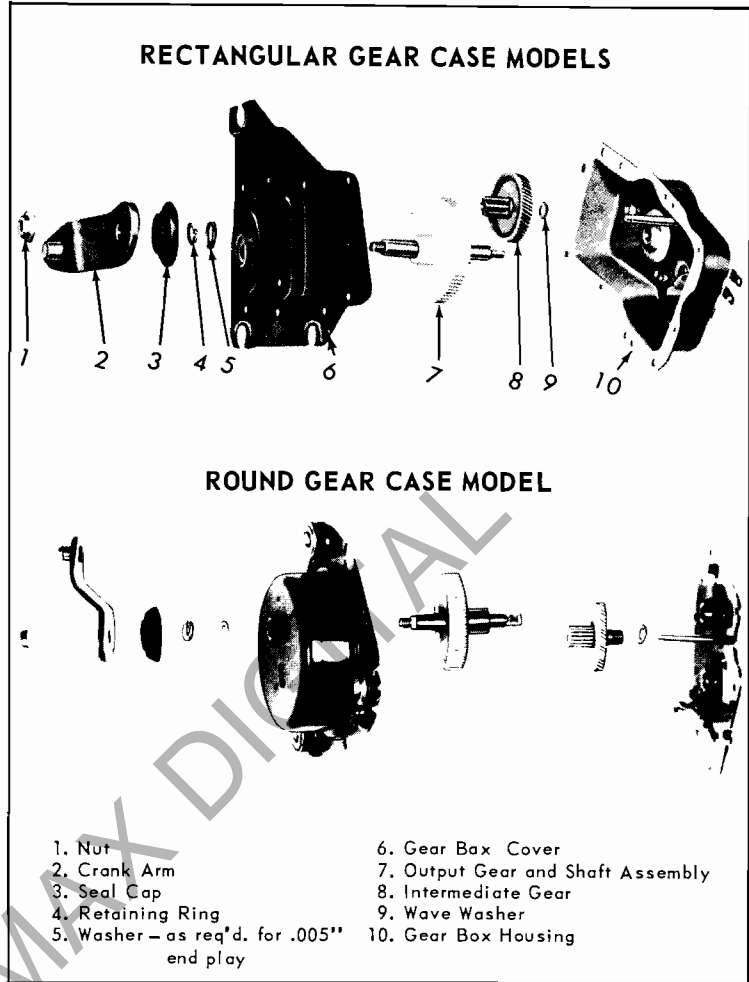

FIGURE 16
2. Clamp crank arm in a vise and remove crank arm retaining nut (Figure 16).
3. Remove crank arm, seal cap*, Tru-Arc retaining ring, and end-play washers. (Fig. 16). *Seal cap used only on regular pass. car models and trucks.
5. Remove output gear and shaft assembly, then slide intermediate gear and pinion assembly off shaft. (Figure 16)
6. Re-assemble end-play washers and retaining ring over output gear shaft (Figure 16). Use end play washers as required to obtain .005" maximum end play.